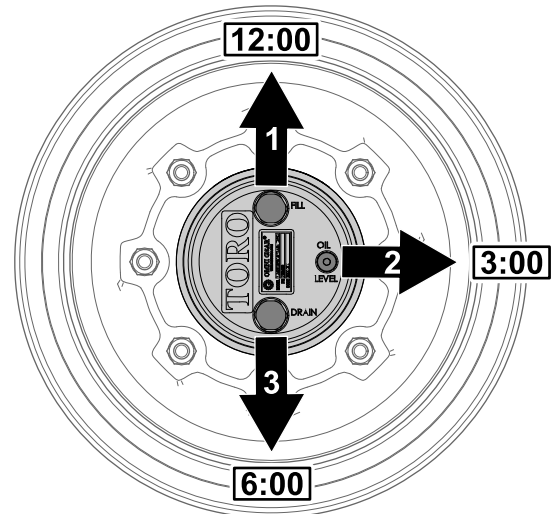

Figure 62
1. Park the machine on level surface, position the wheel so that the fill plug is at the 12 o'clock position, the check plug is at 3 o'clock position, and the drain plug is at the 6 o'clock position (Figure 62).
2. Remove the check plug at the 3 o'clock position (Figure 62).
1. Park the machine on level surface, position the wheel so that the fill plug is at the 12 o'clock position, the check plug is at 3 o'clock position, and the drain plug is at the 6 o'clock position; refer to Figure 62 in Checking the Planetary Gear-Drive Lubricant (page 56).